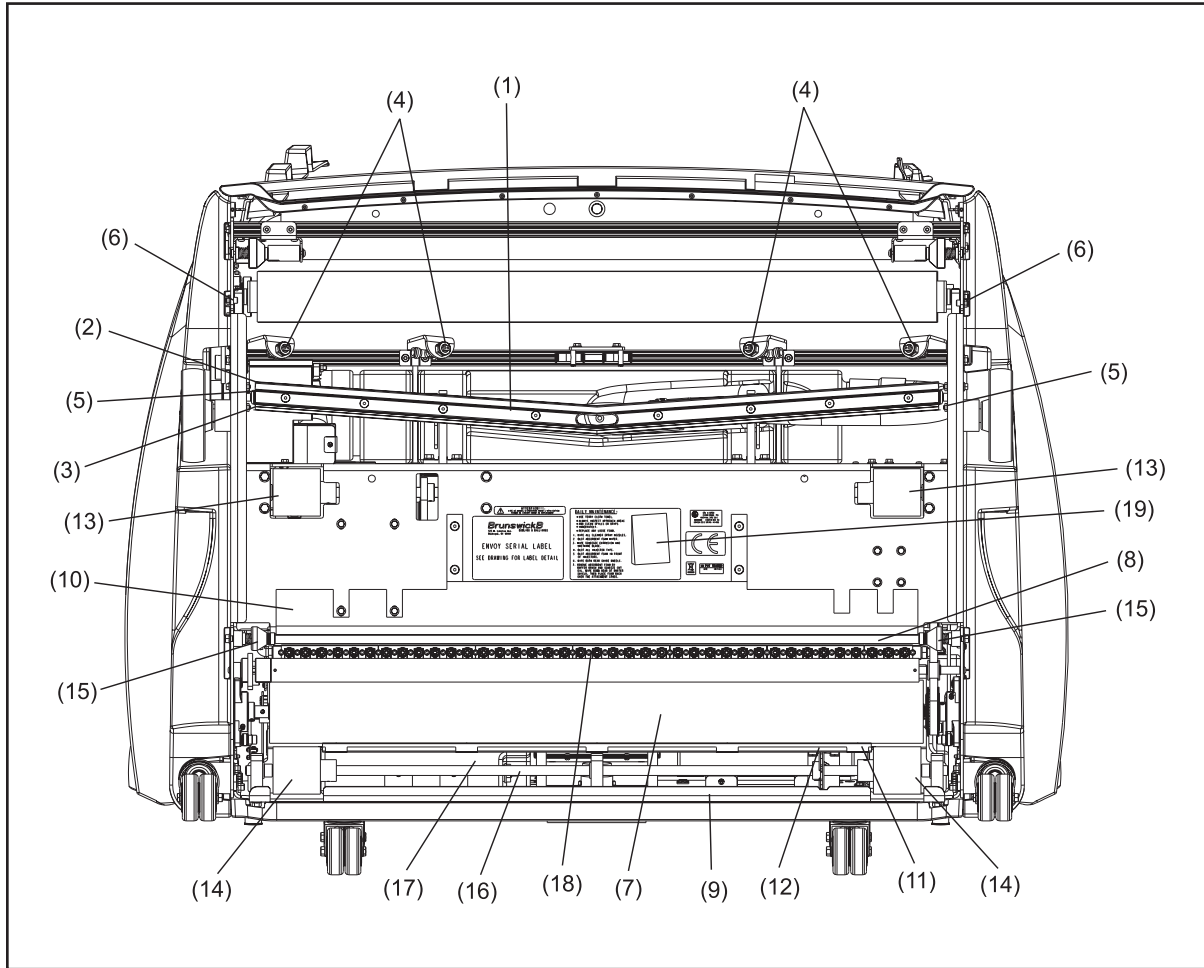

Figure 6-2. Transport Position - Daily Maintenance
**NOTE:** *The Daily Maintenance Decal on the bottom of the machine (refer to Figure 6-2) contains helpful reminders for each step explained above.*